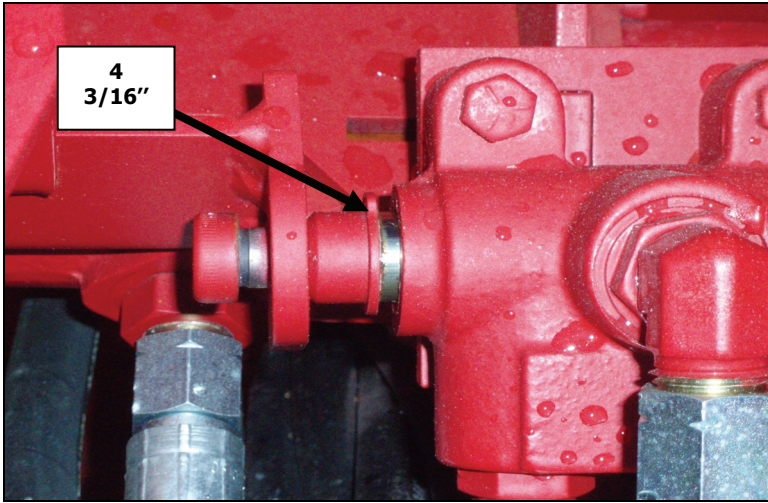
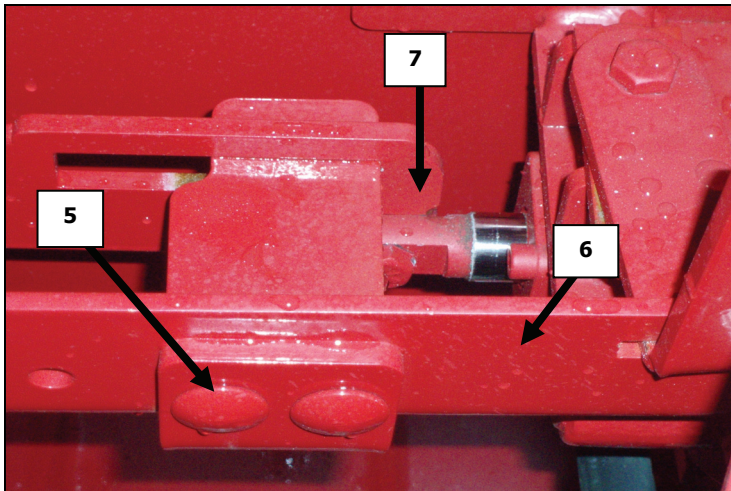

Figure 8.3 Gap
Figure 8.4 Transfer bar
8.3 → If the automatic system is correctly adjusted, you should obtain a distance of 3/16" (Figure 8.3 #4) between the snap ring and the body of the valve. If you do not obtain a distance of 3/16", refer to the adjustment procedure that follows.
8.4 → To adjust the gap (Figure 8.3 #4) in the preceding illustration, you must unscrew the 2 carriage bolts (Figure 8.4 #5) and move the part (Figure 8.4 #6) so as to obtain the necessary gap (Figure 8.3 #4), all while keeping the part (Figure 8.4 #7) at the end of the gap. Screw the 2 carriage bolts (Figure 8.4 #5) in place.
8.5 → To check that the adjustment has been completed correctly and that the necessary gap (Figure 8.3 #4) is present, return to step 8.1.